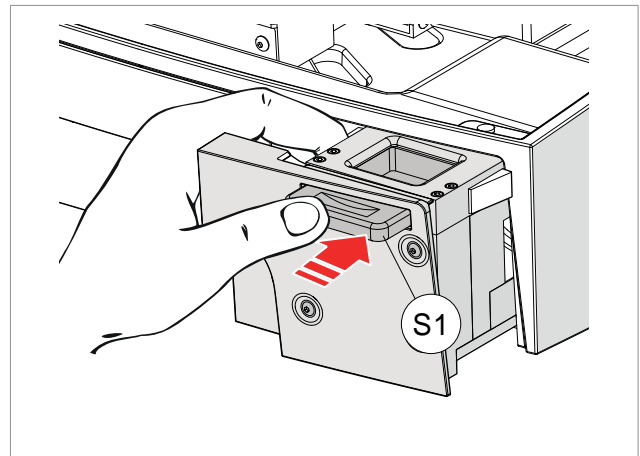

Fig. 61
- 1) Pull the photo reader unit (S) out all the way.
- 2) Hold the unit firmly with one hand and push the handle (S1) (Fig. 61).